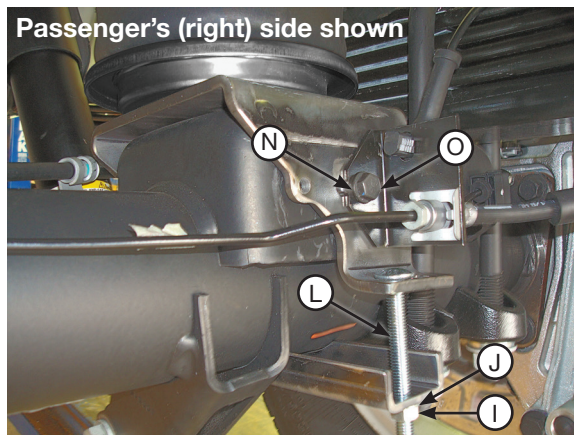

fig. 17
1. Position the lower bracket to best align the air spring. Insert two 3/8" x 3 1/2" carriage bolts (L) through the lower bracket mounting legs (Fig. 17).
2. Insert the lower clamp bar (M) over the two carriage bolts previously installed and cap with two 3/8" nylon lock nuts (I) and flat washers (J). Torque evenly to 16 lb.-ft. (22Nm) (Fig. 17).
3. Attach the brake lines and emergency brake cable that were un-bolted from the rear of the axle in the "Getting Started" section by attaching them to the lower bracket with the new M8 screws (O) and flat washers (N) provided (Fig. 17). Tighten securely.